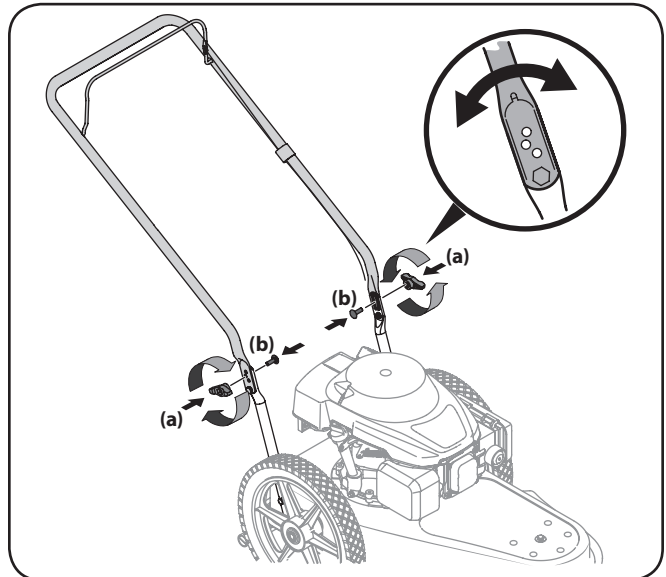

Figure 3-2
3. Move the upper handle into one of three positions by pivoting it forward or rearward. Secure the upper handle to the lower handle using the wing knobs (a) and carriage bolts (b) removed in Step 1. See Figure 3-2.